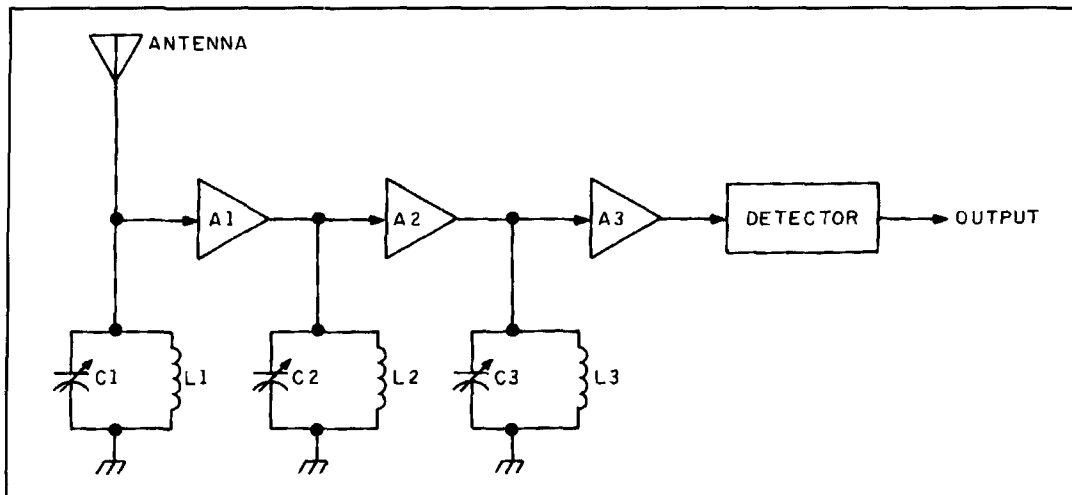

Figure 3. Block diagram of a TRF receiver.
**Tuned Radio Frequency (TRF) receivers.** The TRF receiver (**Figure 3**) uses a cascade chain of tuned RF amplifiers (A1, A2, and A3) to amplify the radio signal. The TRF was the first really sensitive design developed in the early 1920s, and was eclipsed by the superhet in popular commercial receivers. However the TRF is still popular in the VLF range, especially among homebrewers. Unfortunately, the TRF receiver can exhibit the unwanted oscillations common in tuned triode devices like NPN bipolar transistors.